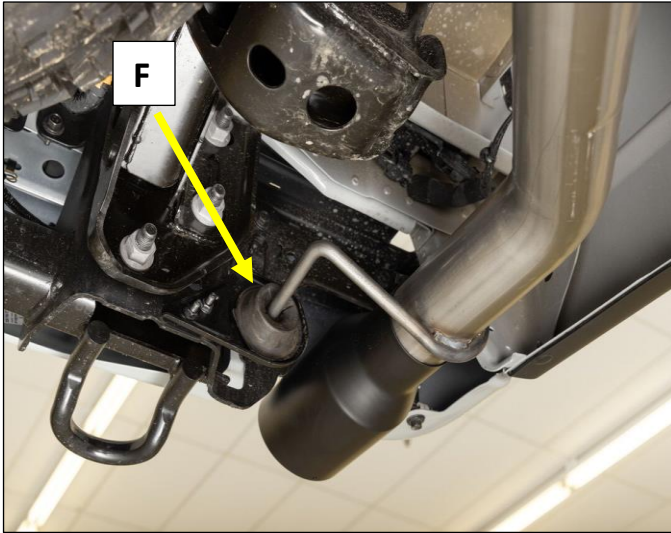

Figure 15
7. Install the Left (F) and Right (G) rear tailpipe hanger assemblies on to the rear tailpipe hanger rods. Install the stud plates into the rear frame bracket and install the nuts. **Fig. 15/16**